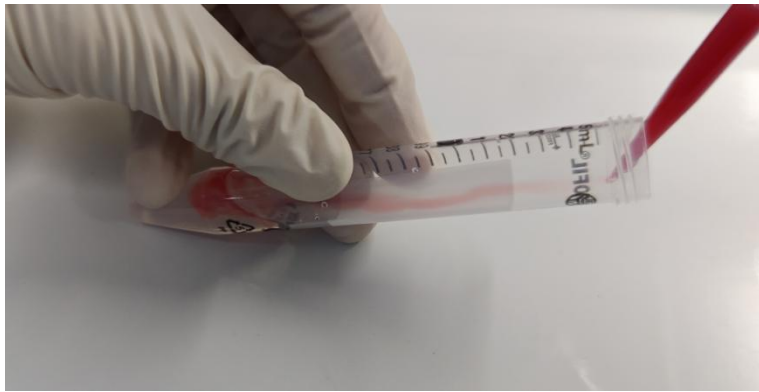

Figure 2. Demonstration of Layered Operation of Cell Suspension and Separation solution
(1) Place a **70 µm Cell Filter** and **100 µm Cell Filter** on a new 50 mL centrifuge tube. Pre-wash the filter with 1-2 mL washing solution.
(2) Carefully blow the tissue suspension in the previous 50 mL centrifuge tube with a 5 mL pipette or a Pasteur pipette. After filtering through a **100 µm Cell Filter** and a **70 µm Cell Filter** in turn, slowly add 3-5 mL of **Specialized Washing Solution For Mouse liver Sinusoidal Endothelial Cells** to the top of the filter with a clean pipette tip to collect the tissue digestion suspension on the filter. Collect the filtrate in a 50 mL centrifuge tube, centrifuge the cell filtrate at 400 g for 10 minutes, discard the supernatant, and retain the precipitate.
(3) Resuspend the cell pellet in a 50 mL centrifuge tube using 6 mL of **Special Separation Solution A For Mouse Liver Sinusoidal Endothelial Cells**. Centrifuge at 900 g for 15 minutes and discard the supernatant (which contains liver stellate cells, a small amount of sinusoidal endothelial cells, Kupffer cells, hepatocytes, etc.) retaining the precipitate.
(4) Resuspend the precipitate obtained from the 50 mL centrifuge tube in the previous step using 6 mL of **Special Separation Solution B For Mouse Liver Sinusoidal Endothelial Cells**. Take a new sterile 15 mL centrifuge tube and add 3 mL of **Special Separation Solution C For Mouse Liver Sinusoidal Endothelial Cells**. Use a 1 mL pipette to collect the cell suspension from the 15 mL centrifuge tube, tilt the tube with the pipette tip against the wall of the tube, and gently blow out the cell suspension along the tube wall to slowly flow into the liquid surface above **Special Separation Solution C For Mouse Liver Sinusoidal Endothelial Cells** (as shown in Figure 2), form two layers of liquid (as shown in Figure 3).